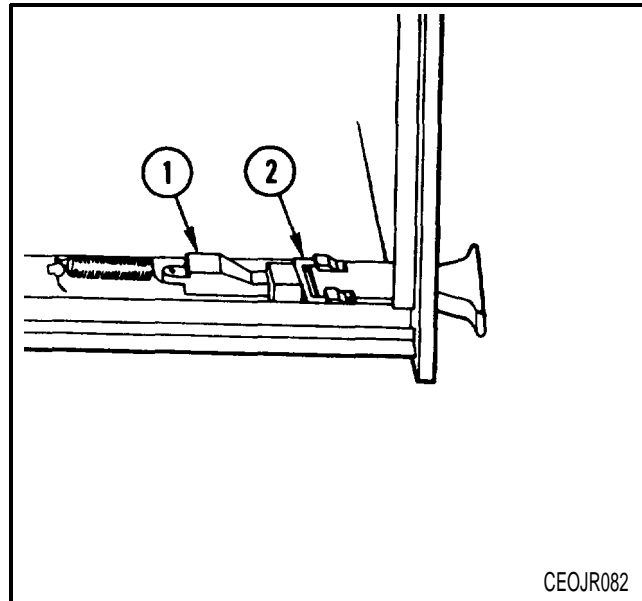

Fig. 5-7. Latch assembly pictorial.
- b. Remove the top cover screws (2).
- c. Remove screws (2) attaching the back cover to top cover.
- b. Remove shield ground screw (1) on bottom.
- c. Remove the latch assembly using the following procedure. Refer to Fig. 5-7.